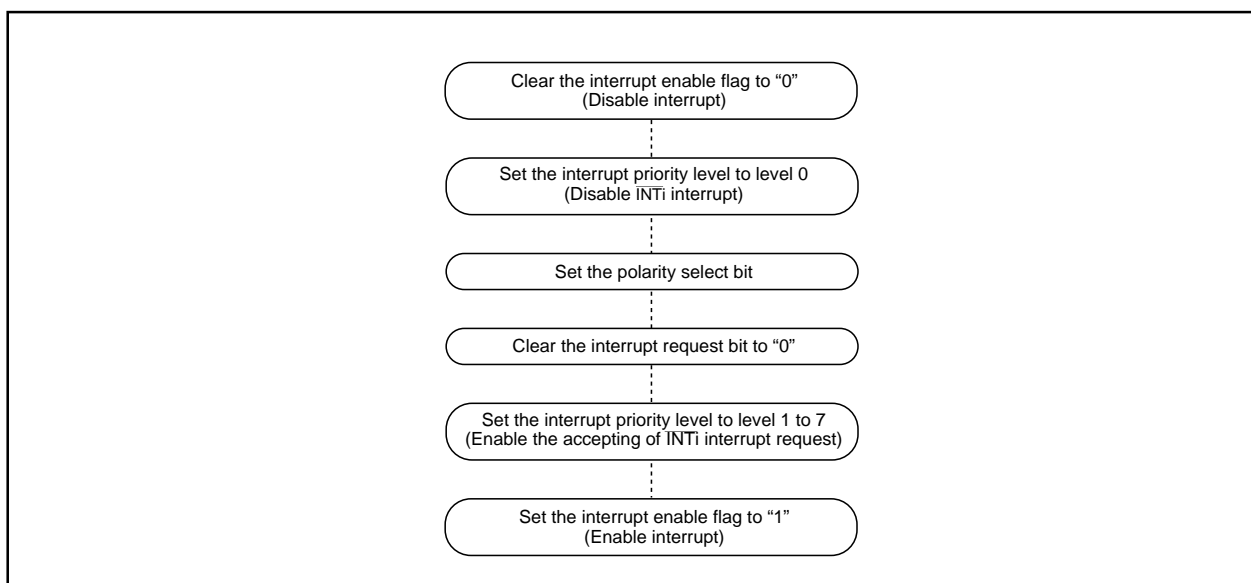

Figure 1.14.13. Switching condition of INT interrupt request
(3) The $\overline{\text{NMI}}$ interrupt
(4) External interrupt
- When the polarity of the $\overline{\text{INT0}}$ to $\overline{\text{INT5}}$ pins is changed, the interrupt request bit is sometimes set to "1". After changing the polarity, set the interrupt request bit to "0". Figure 1.14.13 shows the procedure for changing the $\overline{\text{INT}}$ interrupt generate factor.